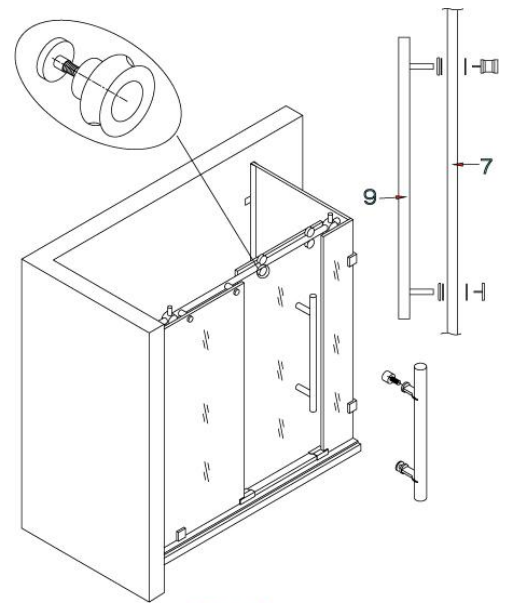

FIG. 12
2. Align the handle to its respective door position with a plastic washer on each side of the door. [SEE FIG.12]